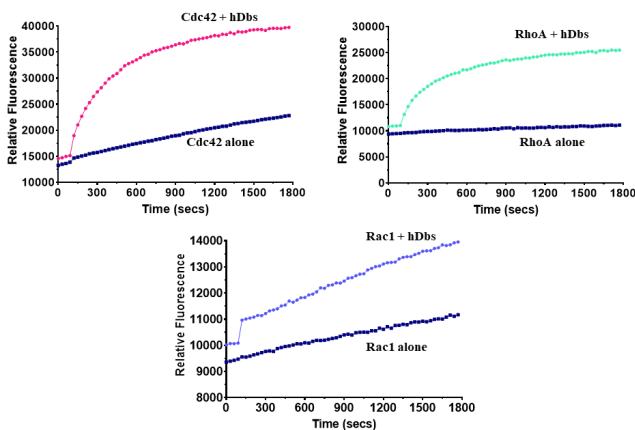

Figure 3. DBs exchange activity for Cdc42, RhoA and Rac1 in 384-well half area plate format. The data shown are the averages of three experiments.
- Save the readings after the kinetic protocols are finished. The exchange rate can be calculated by reducing the data to V_{max} with the software that accompanies the plate reader. The exchange curve can be achieved by exporting raw data to Microsoft Excel. Examples using positive control DBs are shown in **Figure 3**. To calculate the specific activity please read **Appendix II**.